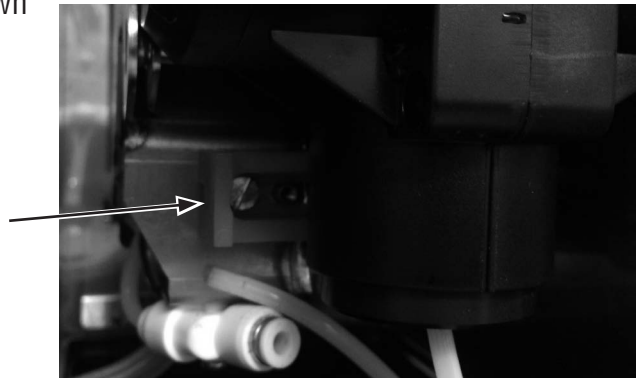

Figure 4
7. Slide red lock to the right until it snaps into place as shown in Figure 4.